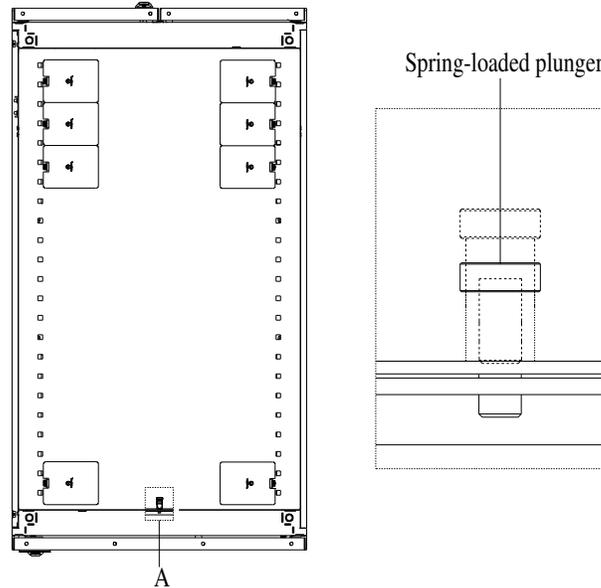

Figure 3-9 Disassembly of Top Cover
1. Pull back the spring-loaded plunger on the front end of the top cover and push the top cover upwards by approximately 150mm, as shown in Figure 3-9.